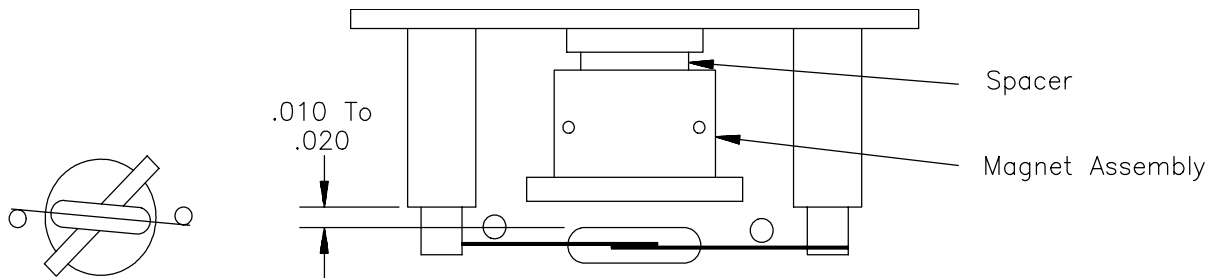

FIGURE 3. Reed Switch Assembly
- E. Solder the new switch onto the sides of the switch mount terminals (form a loop in the relay leads to obtain proper lead length -- **DO NOT CUT THE RELAY LEADS.**) Measure the distance between the bottom of the rotating magnet and the top of the switch envelope, as shown in Figure 3. The spacing should measure between 0.01 and 0.02 inches.